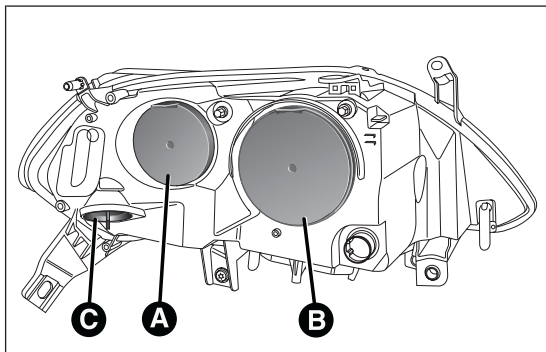

fig. 129
These contain the bulbs for the side lights/day lights (DRL), dipped beams, main beams and direction indicators. The bulbs are arranged as follows fig. 129:
- remove cover A fig. 129;
- then refit the cover A fig. 129.
- remove cover B fig. 129;
- then refit the cover B fig. 129.
- ❑ rotate the cover C fig. 129 anticlockwise;